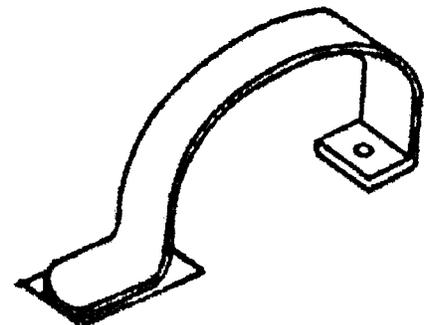

Figure 5-12. Cord Holder Bracket
- l. The cord holder bracket (Figure 5-12) is used to hold cords for electric drills, soldering irons, etc.